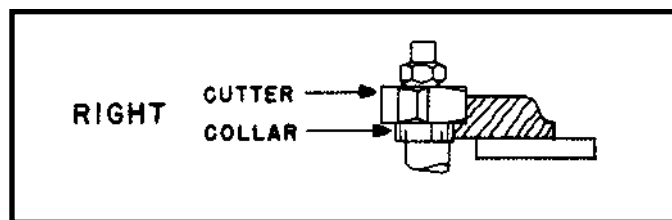
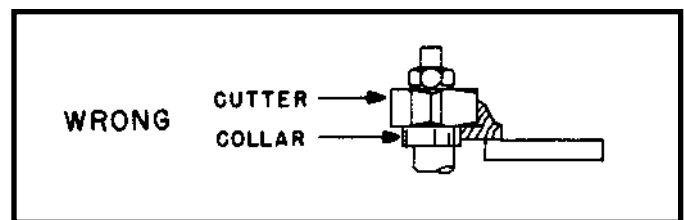

Fig. 65
Fig. 66
4. The work **MUST** be fairly heavy in proportion to the cut being made (Fig. 65). Under **NO** circumstances should short work of light body be shaped against the collars (Fig. 66).